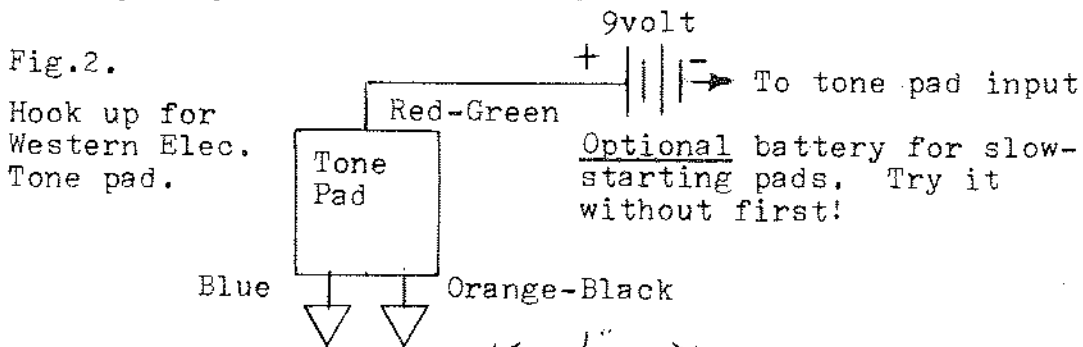

Fig. 2.
3. Tone pad adjustment. Connect a standard telephone-type tone pad to the tone input terminal and ground as shown in fig. 2. Adjust R15 for the highest level possible before audible distortion sets in. Either too high or too low a level may prevent the decoding system from responding properly.